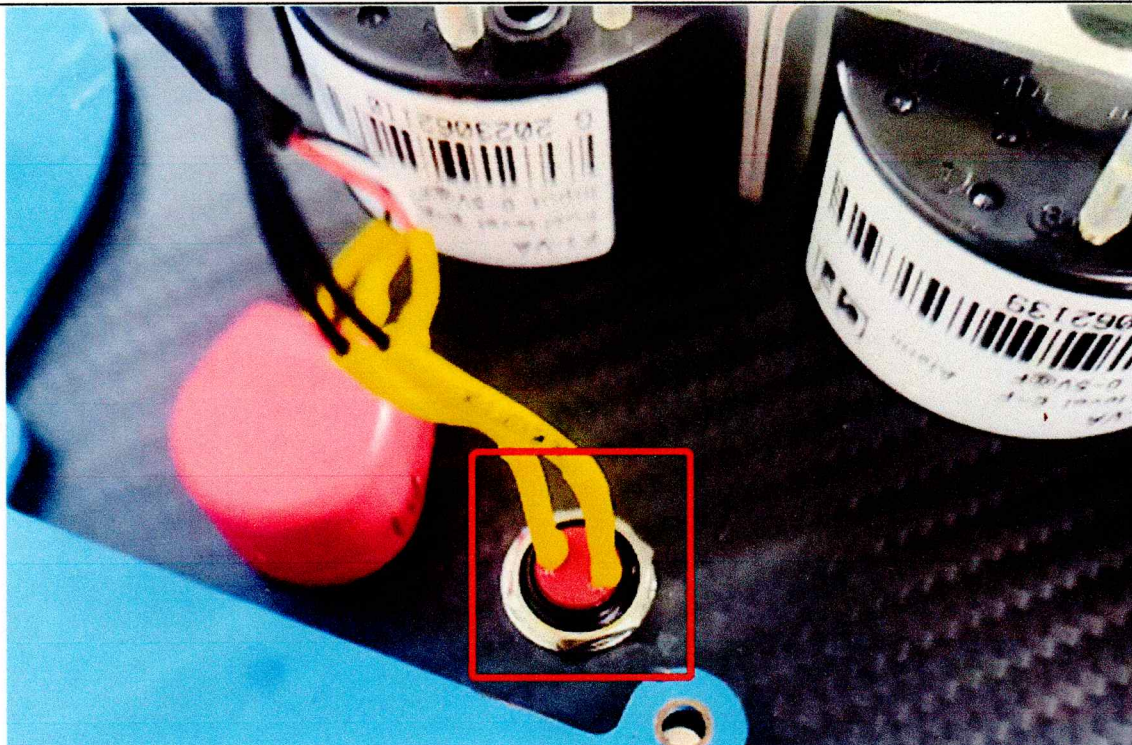

Figure 6 Welding diagram of the reset button
- a. Wiring, as shown in Figure 6. Thread the pin 3 lead wire of the 5-core connector of the voice alarm board through the button installation nut and gasket, cover it with a heat shrink tube, and then weld it to one of the pins of the reset button. After welding, heat the heat shrink tube to insulate. Take a 20cm short AWG20 black wire and peel it, then weld it to another pin of the reset button. After welding, cover it with a heat shrink tube, heat the heat shrink tube to insulate.